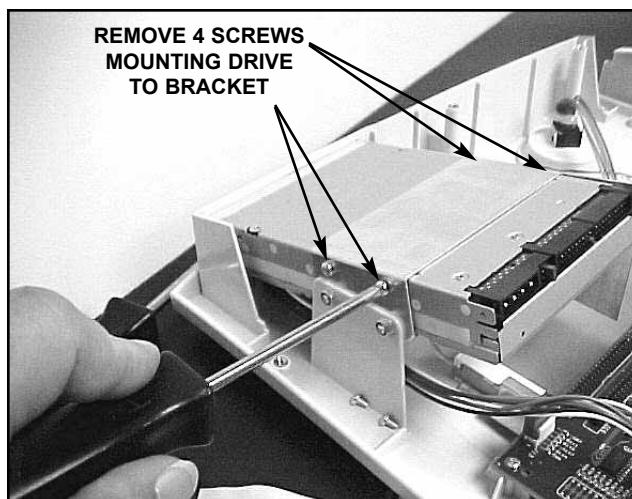

FIGURE 6.5
4. With #1 Phillips screwdriver remove the 4 screws securing the Zip Drive in the mounting bracket. See Figure 6.5.
1. Place new Zip Drive, Part Number 79350, into mounting bracket and secure with the 4 mounting screws. See Figure 6.5.
Make certain the Zip Drive is installed in the proper position to avoid damage to the drive. See Figure 6.5.